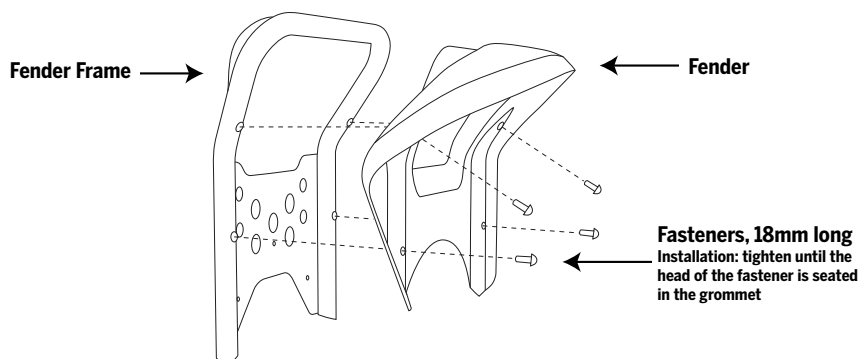

Figure 2. Removing or Installing the Fender and Fender Frame.
4. To remove the Fender from the Fender Frame, remove the (4) 18mm fasteners using a 4mm hex wrench. See Figure 2.
5. To re-install the Fender to the Fender Frame, thread the (4) 18mm long fasteners, included with this kit, through the Fender into the Fender Frame. Using a 4mm hex wrench, tighten until the head of the fastener is seated in the grommet. Once seated, turn another ½ to 1 full turn.
6. To re-install the Fender & Frame Assembly to the PT, thread the (3) 28mm long fasteners, included with this kit, through the Fender & Frame Assembly into the gearbox cover. Using a 4mm hex wrench, torque to 6.0 N-m (4.4 ft-lbf).